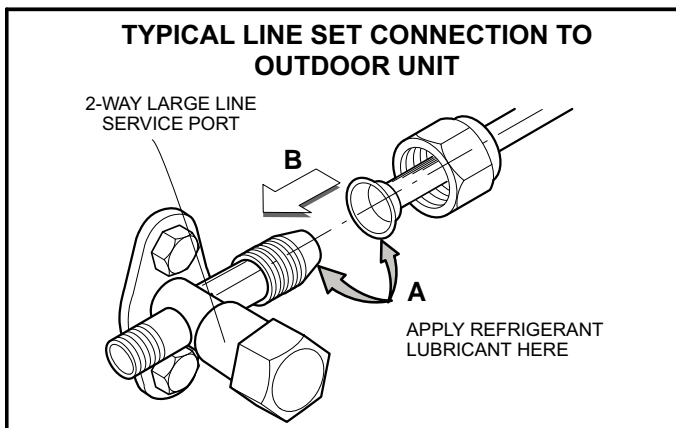

FIGURE 36
2. Apply refrigerant lubricant to the matching surfaces of the flared line set and union before connecting them together (figure 36 -- **A**). This will reduce refrigerant leaks.
3. Align the flared refrigerant line with valve connection, then tighten the flare nut lightly at first to obtain a smooth match (figure 36 - **B**).